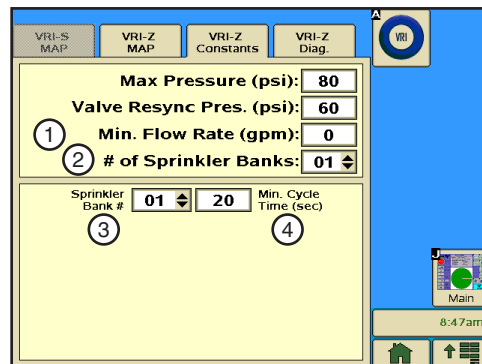

Figure 58-1 1. Min. Flow Rate Field
1. Push **Options, VRI, VRI-Z Constants** to display the VRI-Z Constants screen. Refer to Figure 58-1.